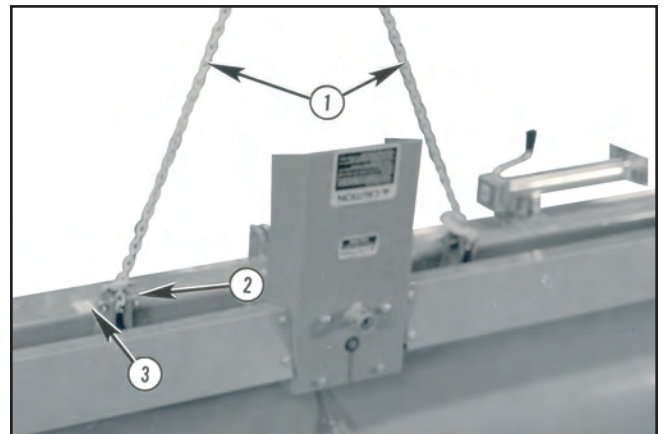

FIGURE 101
For overhead chain sling offloading, use a chain sling (1) approximately 5' long on each run. Fix EACH sling chain hook SECURELY around both 1" diameter hitch pins (2) where shown by decal (3). Lift off carrier and deposit on a firm, clear and level work area. See Figure 101.